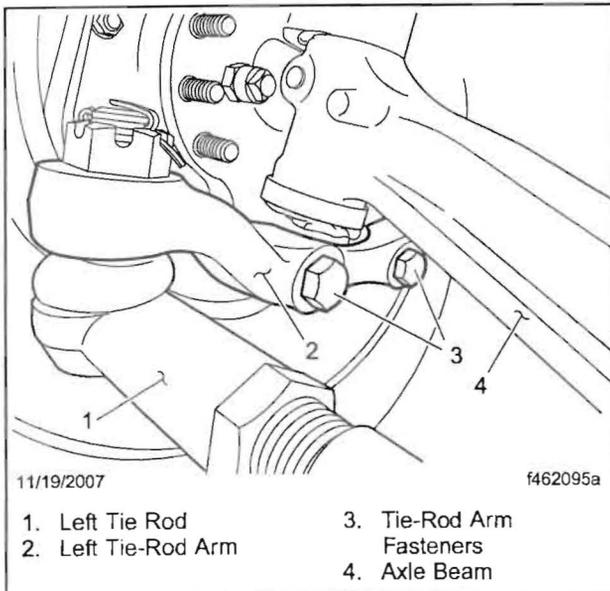
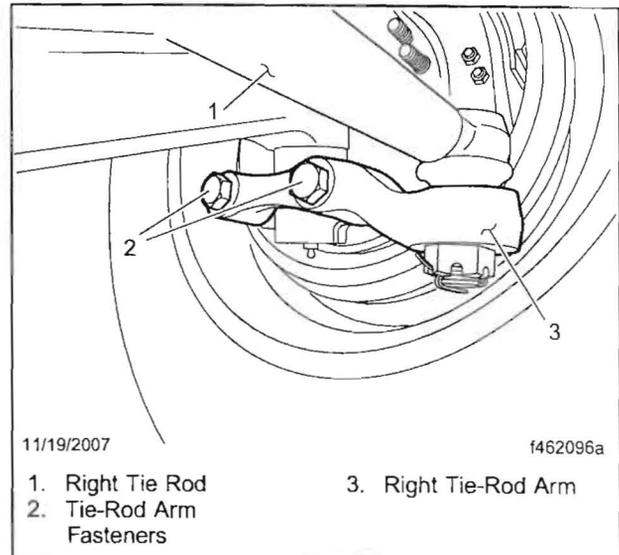

Fig. 3, Left Side of Vehicle
Fig. 4, Right Side of Vehicle
- 7.1 Remove and discard the fasteners that hold the tie-rod arms to the steering knuckles. Leave the tie-rod arms attached to the steering gear; removing the arms is unnecessary because the gear will be replaced later in the procedure. See **Fig. 3** and **Fig. 4**.